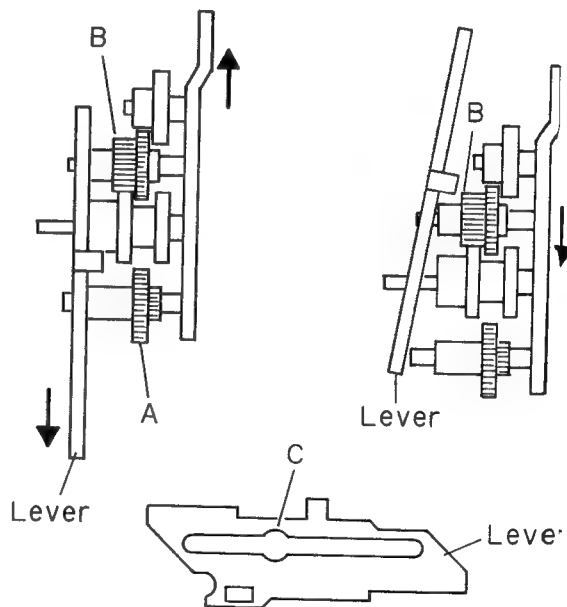

Fig.18
- 13.Shift lever as shown in Fig.18.
- 15.Shift the gear as shown in Fig.18.